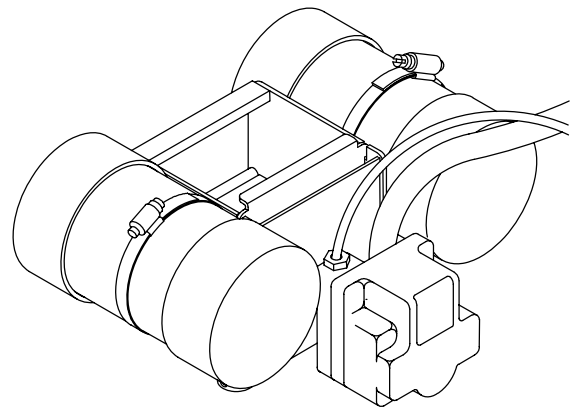

Figure 10
1. Install the pump on the skimmer box and place the assembly in the sump. Connect the outlet hose to the pump as shown in Figure 10.